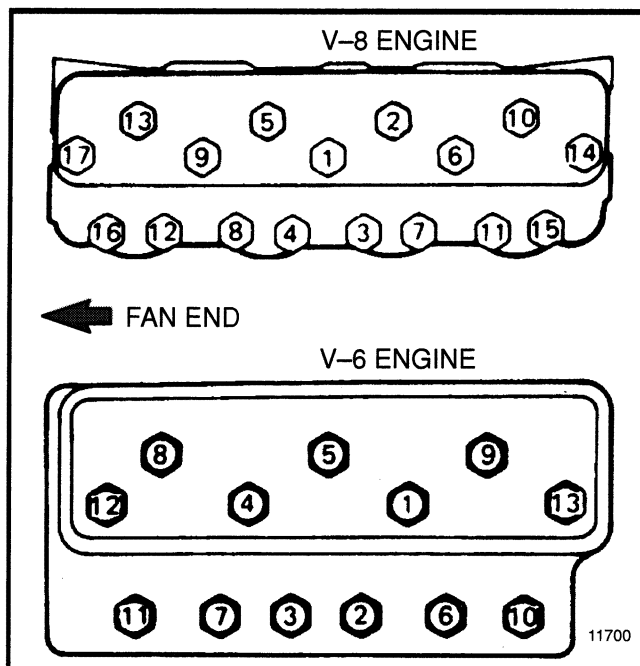

FIGURE 5. TIGHTENING SEQUENCE, CYLINDER HEAD
5. Remove the capscrews that hold the cylinder head to the block. Loosen the capscrews in the reverse order of the tightening sequence shown in FIGURE 5. Remove the cylinder head and the gasket.
4. Use a sealant on the threads of the capscrews for the cylinder head. Install the capscrews and tighten them in steps until the final torque is reached. The final torque is 88 N.m (65 lb_f ft). Use the tightening sequence shown in FIGURE 5.